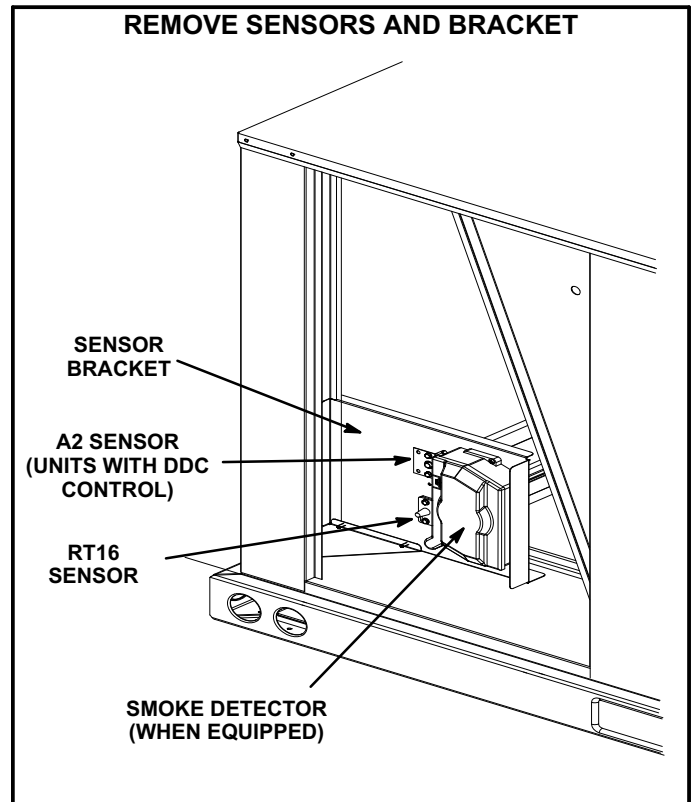

FIGURE 2
- 2- Remove and retain sensors from mounting bracket. See figure 2. Remove mounting bracket and discard.